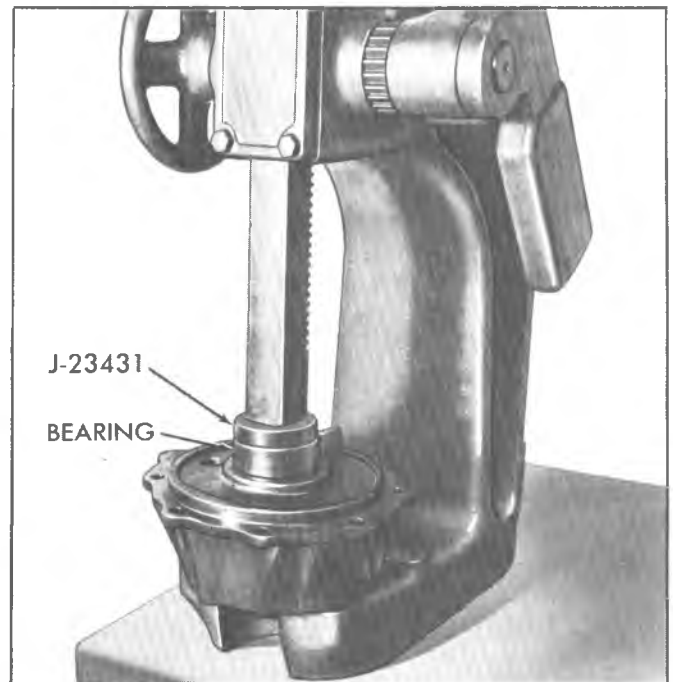

Fig. 17C--Installing Rear Output Shaft Housing Bearing
4. Grease pilot bore or rear output shaft and install needle bearings (15). Install thrust washer and new snap ring in bore.
5. Clean, grease, and install new bearing in retainer housing using Tool J-23431 (Fig. 17C).